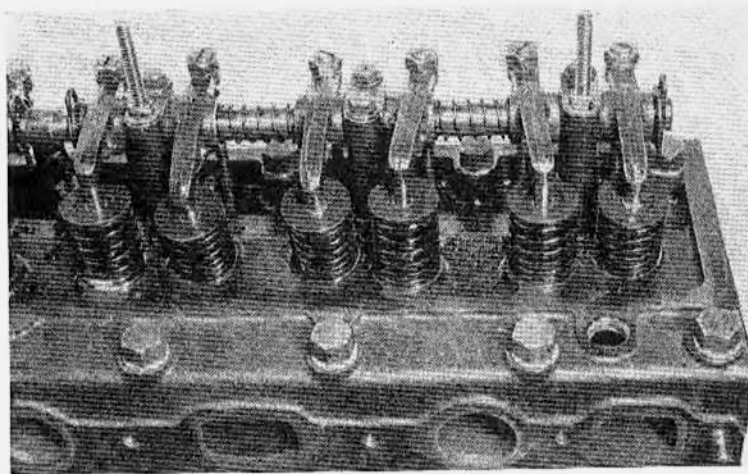

Figure 25 – Correct Installation of Seal, Cap and Stopper
- (3) Assemble the remaining valves, valve springs, spring caps, oil seals and cap stoppers in the cylinder head (Fig. 25).